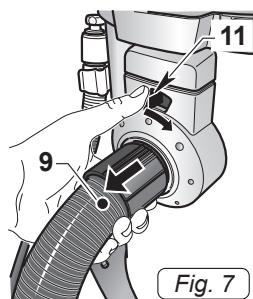
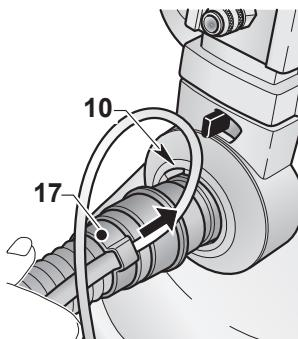

Fig. 7
Fig. 12
- To release the sleeve (9 Fig. 7) turn the lever (11 Fig. 7) clockwise and then pull the sleeve outwards (9 Fig. 7).
- Insert, as far as possible, the sleeve (17 Fig. 12) of the suction hose into the nozzle (10 Fig. 12) on the drum.
- To release the sleeve (17 Fig. 12) turn the lever (11 Fig. 7) clockwise and then pull the sleeve outwards (17 Fig. 12).